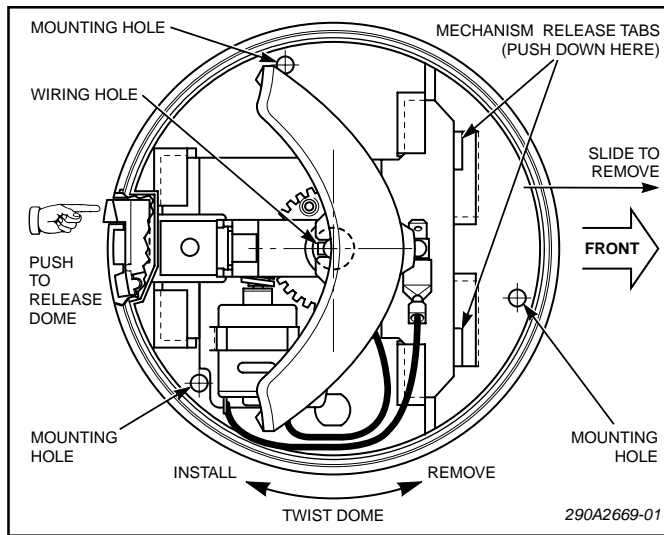

Figure 1.
1. Push and hold the dome release button (located in the plastic base). Turn the dome counter-clockwise and lift the dome off the base (see figure 1).
3. See figure 1. Push and hold the mechanism release tabs.